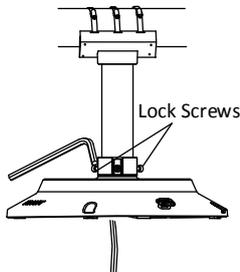

Figure 1-20 Installing Head Cover of PanoVu Camera
- 1) Loosen the two lock screws and make sure that the screws do not appear in the inner side of bracket, as shown in Figure 1-20.